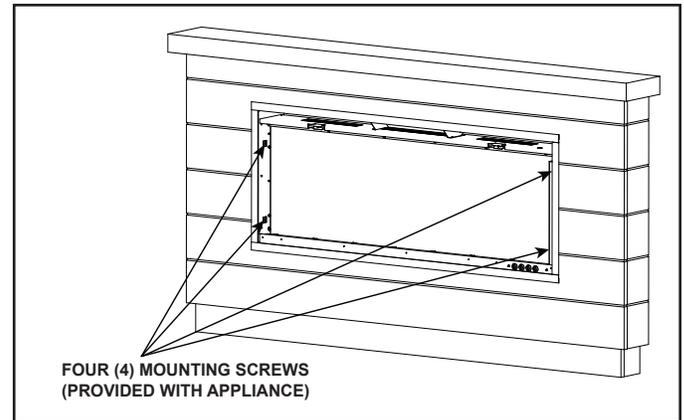

Figure 32
Follow the appliance installation instructions included with the appliance to mount the appliance into the cavity of the Build-Out Kit cabinet. Once the appliance is wired, level and plum with the cabinet, secure it via the appliance mounting locations with the four (4) construction screws (W) included with the appliance. See Figure 32.